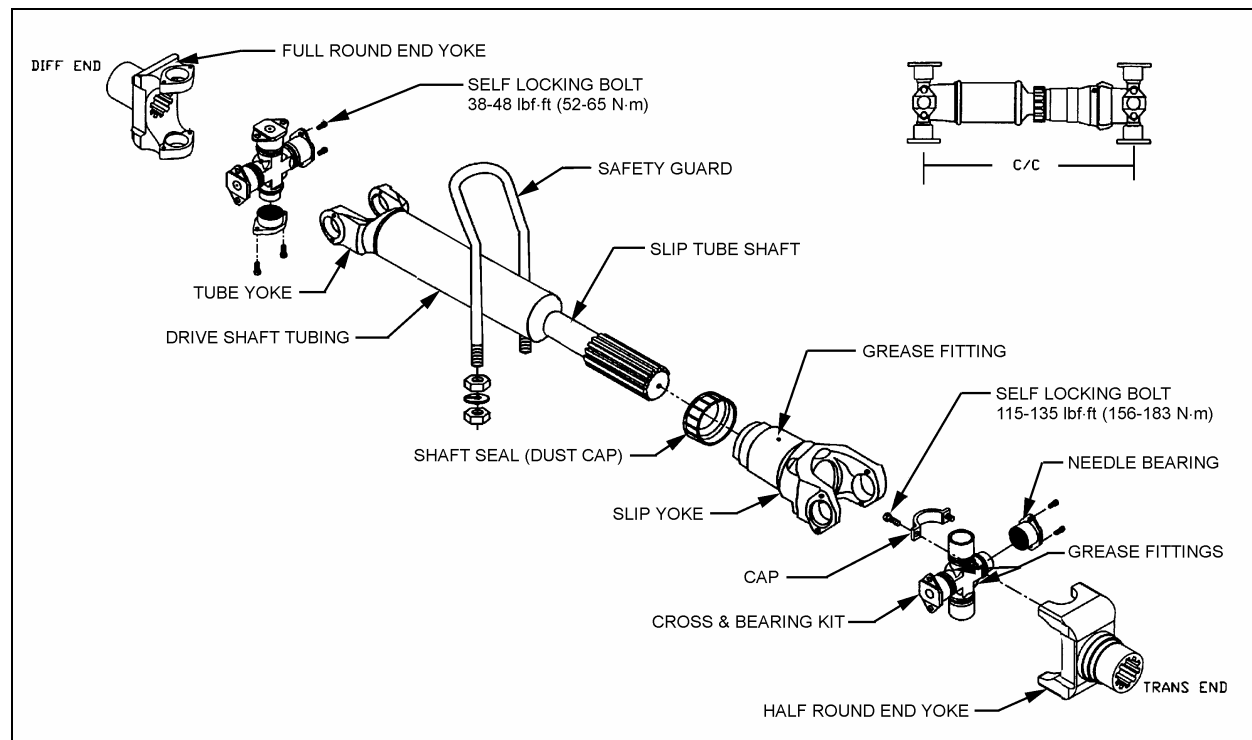

FIGURE 1: PROPELLER SHAFT ASSEMBLY
The propeller shaft transmits power from the transmission to the differential (Fig. 1). Refer to paragraph "6. SPECIFICATIONS" at the end of this section for propeller shaft length. The propeller shaft is "Dana 1810" type with tubular shafts. It is provided with two heavy-duty universal joints (Fig. 1).
- Screw bolts to the specified torque (Fig. 1).